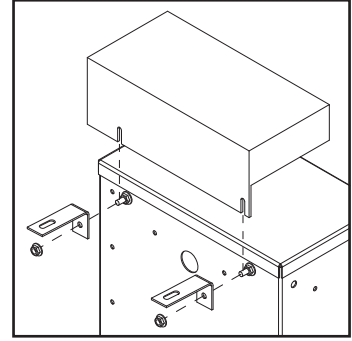

FIGURE 1
3. Place the auto light controller on the top of the control box. Align the slots on the back panel of the controller on top of two existing screws on the rear of the control box, just below the top edge. SEE FIGURE 1.
4. Install two black brackets (included in kit) to the back of the control box for relocation of the manual holder. SEE FIGURE 1.
5. Secure controller and brackets to the control box by installing two flange nuts (included). SEE FIGURE 1.